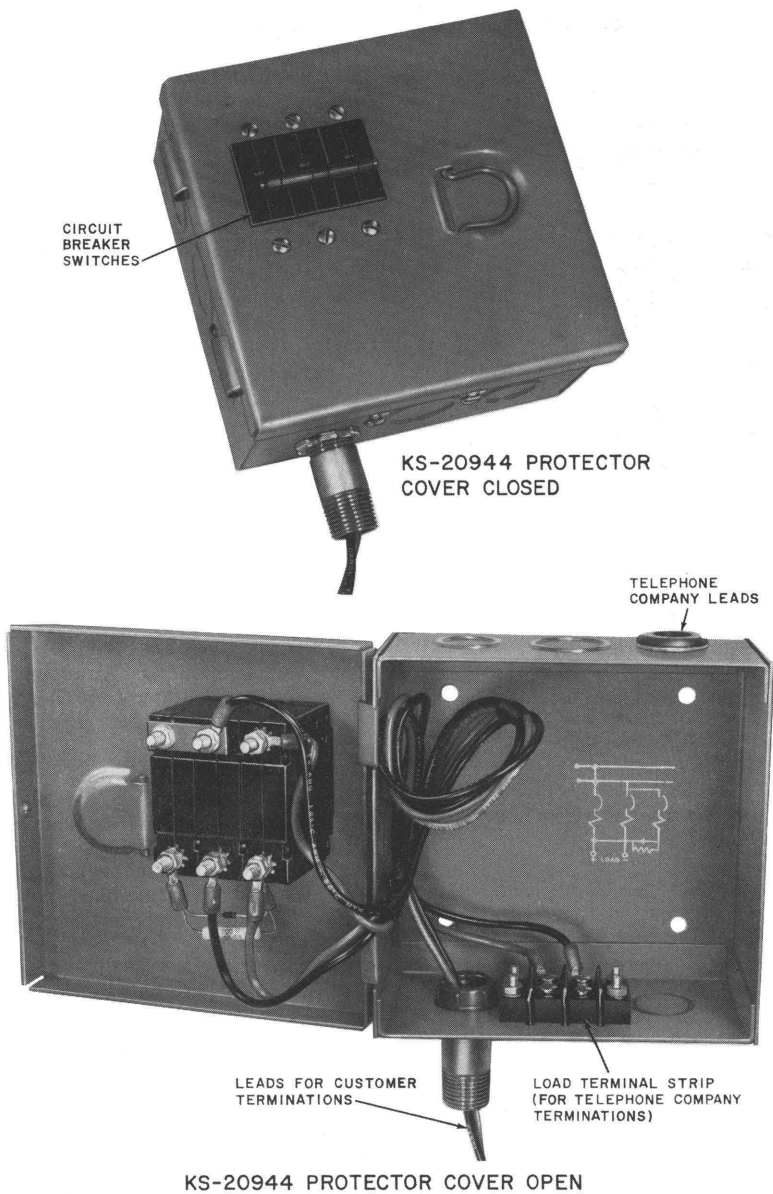

Fig. 9—KS-20944 Protector
- KS-20944, L1 Protector (must be provided when a CP dc power supply is used) (Fig. 9).